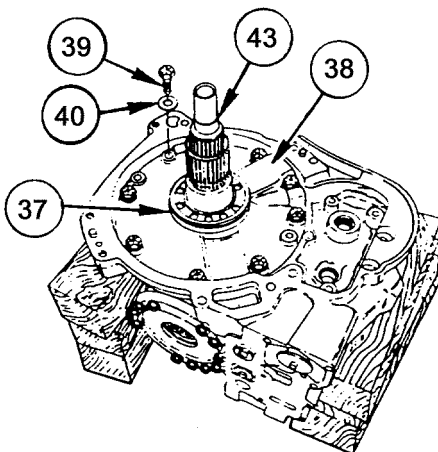

Figure 13. Bevel Gear Assembly.
1. Position Bevel Gear Assembly, shaft upward, on wooden blocks (WP 0024, Item 3) as shown in Figure 13.
2. Install two new metal seal rings (42) onto shaft (43). Coat seal rings (42) with Petrolatum (WP 0024, Item 14).